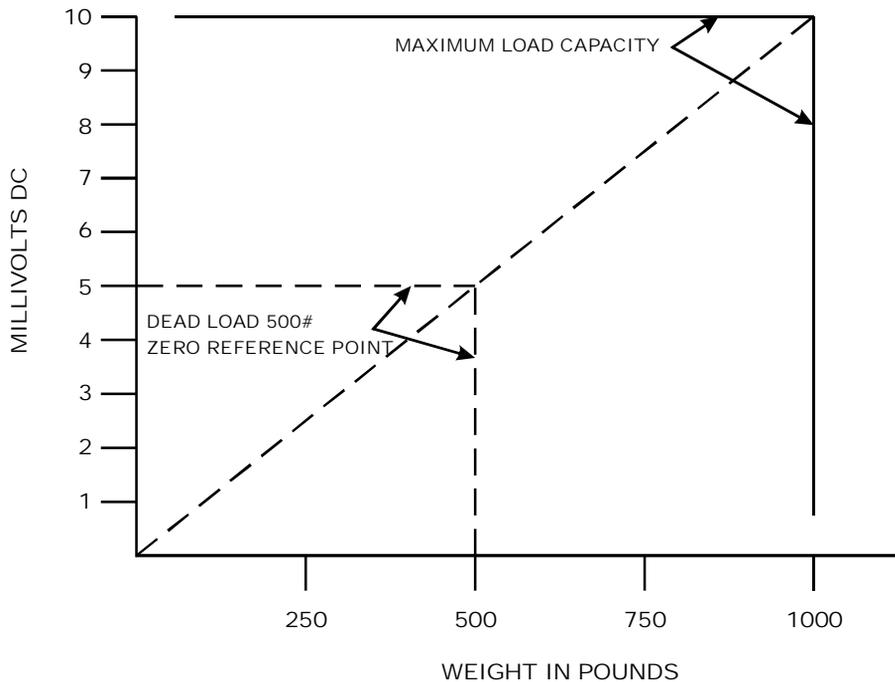

FIG. 303 MILLIVOLTS/WEIGHT SCALE
- The HI 4050 Weight Controller is designed to supply 5 VDC excitation to as many as eight (8) 350 ohm load cells/points.
- A zero reference point will vary from system to system depending on the “Dead Load” of the vessel. “Dead Load” is the weight of the vessel and appurtenances only, with no product loaded. In our example below we assume the dead load to be 500 lbs. (See Fig. 303)